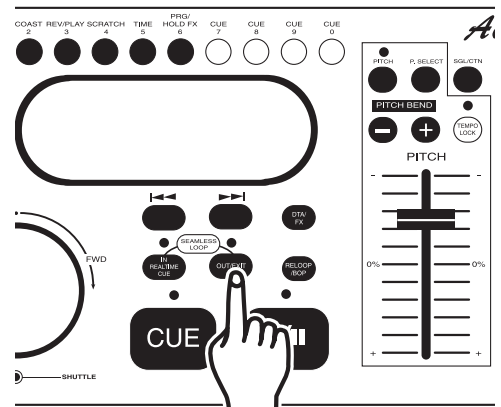

Figure 25
EXITING A LOOP - To exit a SEAMLESS LOOP, press the **OUT/EXIT BUTTON (28)**. The **IN REAL-TIME CUE BUTTON (26)** and **OUT/EXIT BUTTON (28)** LEDs will remain on, but will stop flashing. Music playback will resume normal play (Figure 25). The **IN REAL-TIME CUE BUTTON (26)** and **OUT/EXIT BUTTON (28)** LEDs will remain on to remind you that a loop is stored in memory.
- 1) Press the **OUT/EXIT BUTTON (28)** to return to normal play from the loops cue point (Figure 25). This will disengage the **SEAMLESS LOOP** and allows you to edit the loops ending point.
- 2) Press the **OUT/EXIT BUTTON (28)** again when you reach your new ending point (Figure 25).
- **FOR A SHORTER LOOP:** Press the **OUT/EXIT BUTTON (28)** at sooner point in the track (Figure 25).
- **FOR LONGER LOOP:** Press the **OUT/EXIT BUTTON (28)** at later point in the track (Figure 25).